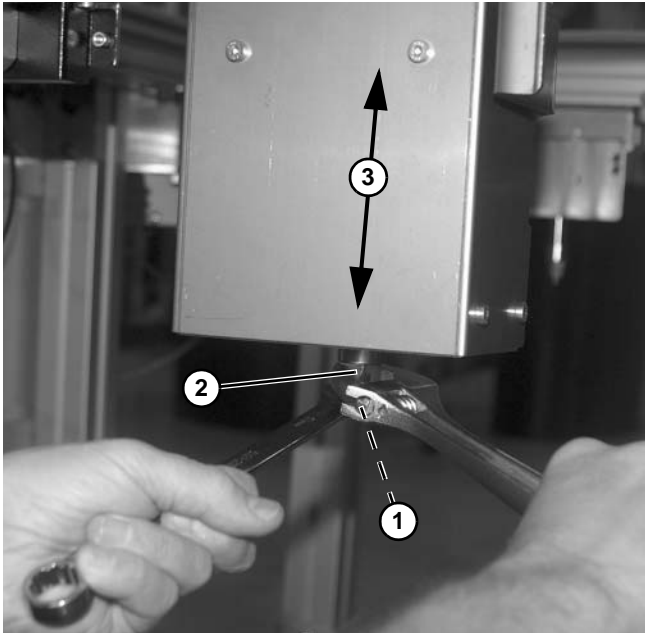

Figure 21
1. To adjust stroke, loosen jam nut (**Figure 21, item 1**) from large nut (**Figure 21, item 2**) on the bottom of cylinder shaft.
2. Turn large nut (**Figure 21, item 2**) clockwise or counterclockwise to raise or lower (**Figure 21, item 3**) pallet assembly as needed.